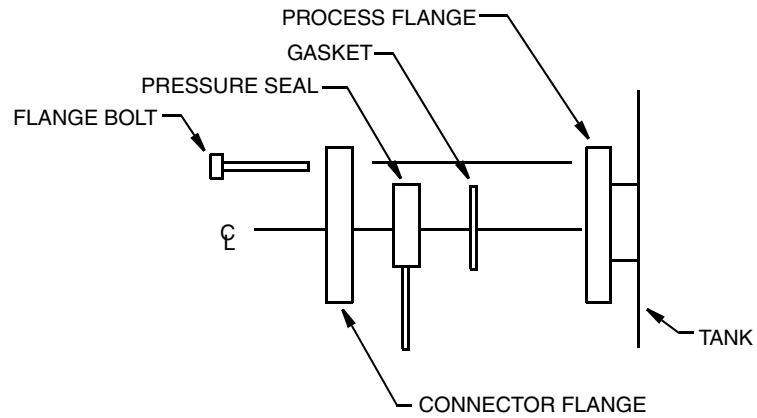

Figure 2. Installing Pressure Seals
1. Align the pressure seal with the connector flange as shown in Figure 2.
2. Position the gasket as shown in Figure 2.